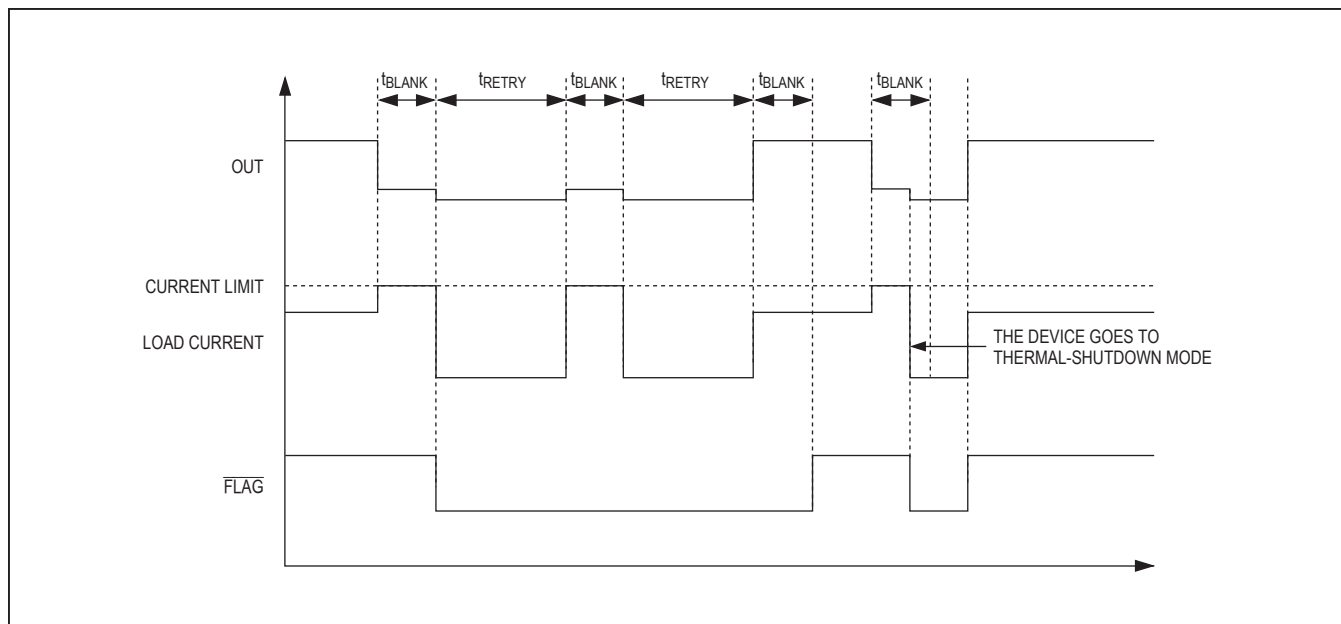

Figure 2. Autoretry Fault Diagram
**Note 2:** Blanking time and retry time are generated by the same oscillator. Therefore, the ratio of  $\frac{t_{RETRY}}{t_{BLANK}}$  is a constant value of 32. See Figures 2 and 3.